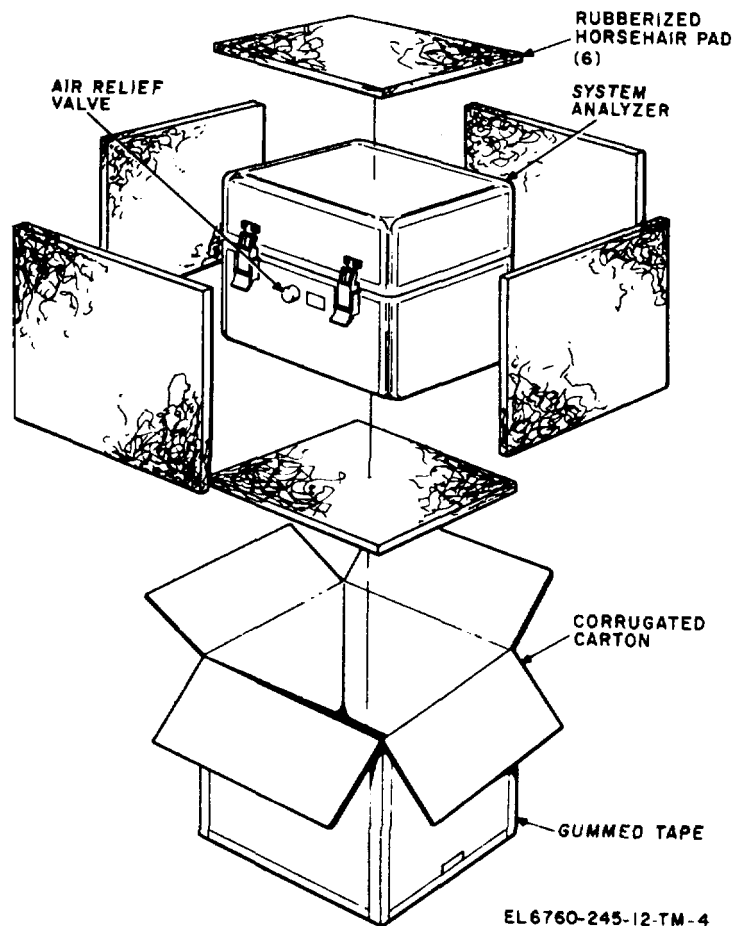

Figure 2-1. System analyzer, typical packaging diagram.
#### 2-1. Unpacking (fig. 2-1)
*a. Packaging and Packing Data.* When packed for shipment, the components of the system analyzer are secured in the combination case and packed in a corrugated carton. A typical corrugated carton and its contents are shown in figure 2-1. A corrugated carton is 24 inches high by 23 inches wide by 24 inches deep. The total weight is 56.5 pounds and the volume is 8.0 cubic feet.
(4) Cut and remove the lock wire from the air relief valve (fig. 2-1); turn the air relief valve counterclockwise.
(5) Unfasten the snap latches. Lift the combination case top and slide it to the right to disengage the separable hinges.
(6) Remove the waterproof package containing the instruction manuals from the pocket on hinged door. Cut the tape securing one side of the waterproof package and remove the instruction manuals.
(7) Open the hinged door by rotating the two twistlock fasteners counterclockwise until the latches release the hinged door.
(8) Remove the components from the compartment cushions.